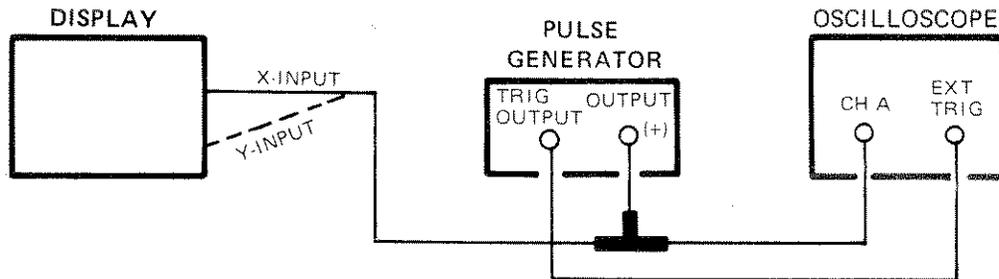

Figure 4-6. Repeatability Test Setup
- a. Connect equipment as shown in figure 4-6.